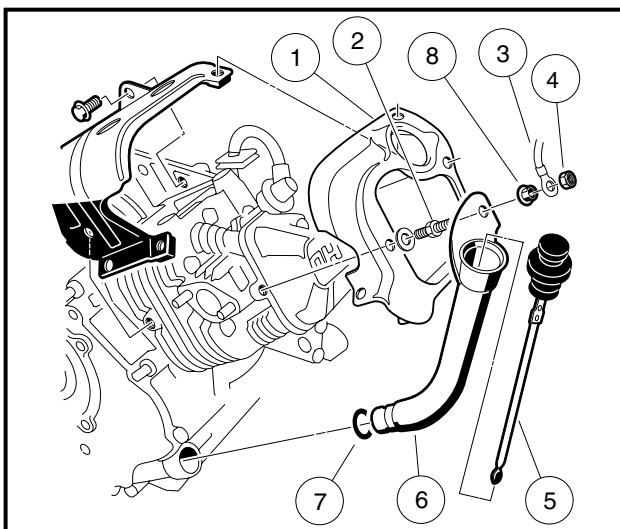

Figure 13-39 Oil Filler Tube and Ground Wire
2. Install lower, upper, and head shrouds (1) along with two-ended bolt (2) (**Figure 13-39, Page 13-21**).
To prevent leaks, apply a light coat of clean engine oil to the O-ring seal (7) before installation. Care should be taken during installation to avoid cutting or nicking the o-ring seal (**Figure 13-39, Page 13-21**).
3. Install oil filler tube (6) and O-ring (7) into the large hole in the crankcase cover. Install the upper end of the oil filler tube (6) onto the two-ended bolt (2). Install flange nut (8) and tighten to 50 in-lb (5.7 N-m) (**Figure 13-39, Page 13-21**).
4. Connect the ground wire (3) to the two-ended bolt and install and tighten the nylon lock nut (4) to 50 in-lb (5.6 N-m). Insert the dip stick (5) (**Figure 13-39, Page 13-21**).